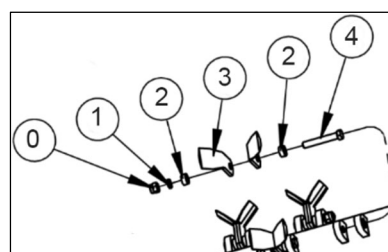

Figure 20
Y type blades replacement steps (See **Figure 20**):
4. Install blade with bolt, washers, spring washer and locknut, refer to **Figure 20**.